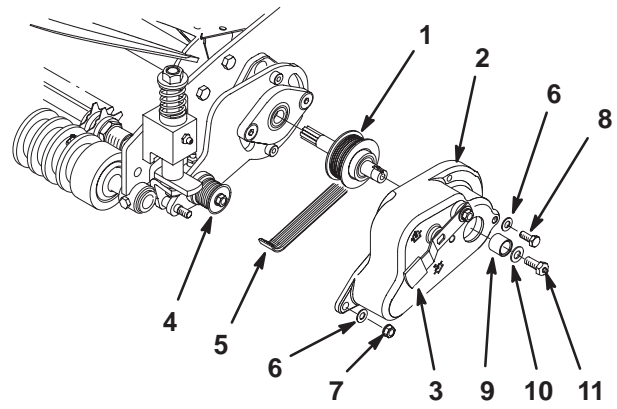

Figure 10
27. Insert the splined end of the drive pulley shaft through the adapter plate into the drive coupling (Fig. 10).
30. Position the drive cover housing over the drive pulley shaft, pulleys, and onto the pivot plate stud (Fig. 10).
31. Secure the drive cover housing to the pivot plate with 2 socket head screws (M6 x 20 mm) and washers (Fig. 10). Also secure the housing to the pivot plate stud with a locknut (M8) and washer.
32. Insert a spacer (5/8 in. long) onto the drive shaft and secure it with a flat washer and special screw/grease fitting (Fig. 10).